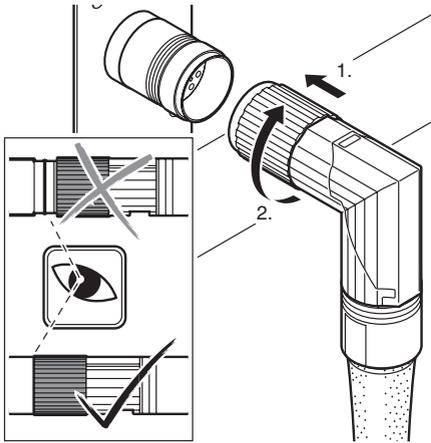

Abb. 15: Connecting the tightening spindle connecting cable with the tightening system
1. Plug the connecting cable plug on the servo amplifier side to the XDS2 interface at the Rexroth tightening system, establishing a flush connection, see fig. 15 on page 149, "1."
2. Screw the two parts together manually according to fig. 15 on page 149, "2."